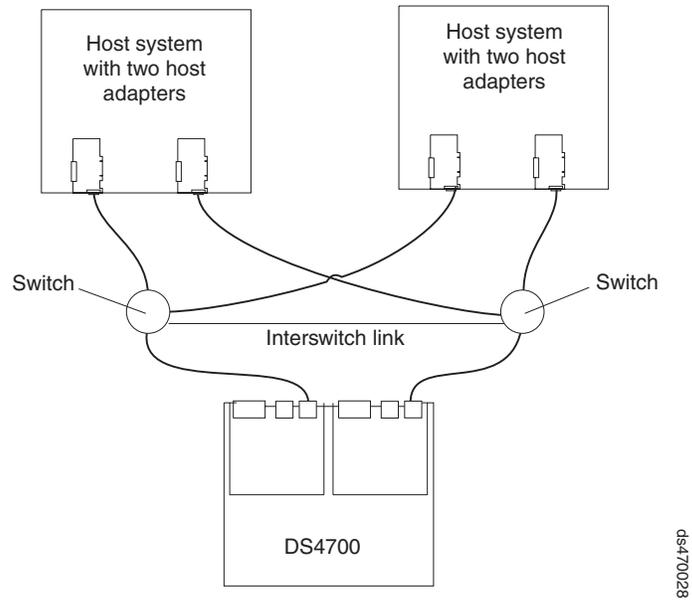

Figure 80. Example of a single SAN fabric configuration
- Single SAN fabric configuration, as shown in Figure 80 on page 101
In Figure 80 on page 101, the fibre channel switches are connected together via the inter-switch link (ISL) to form a single SAN fabric.